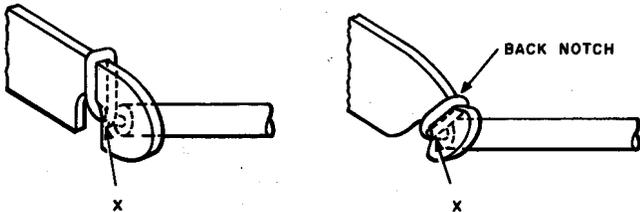

Fig. 2—Termination of Wire on Protector (Notch on Underside of Terminal)
7.04 To terminate a wire on the terminal of a protector where the notch appears on the underside of the terminal, as shown in Fig. 2, bring the wire under the terminal, up through the notch, along the front of the terminal, over the top edge, or through the back notch, where provided, and down the rear side, making one complete turn of bare wire around the terminal. Cut or break the excess wire at point "X".